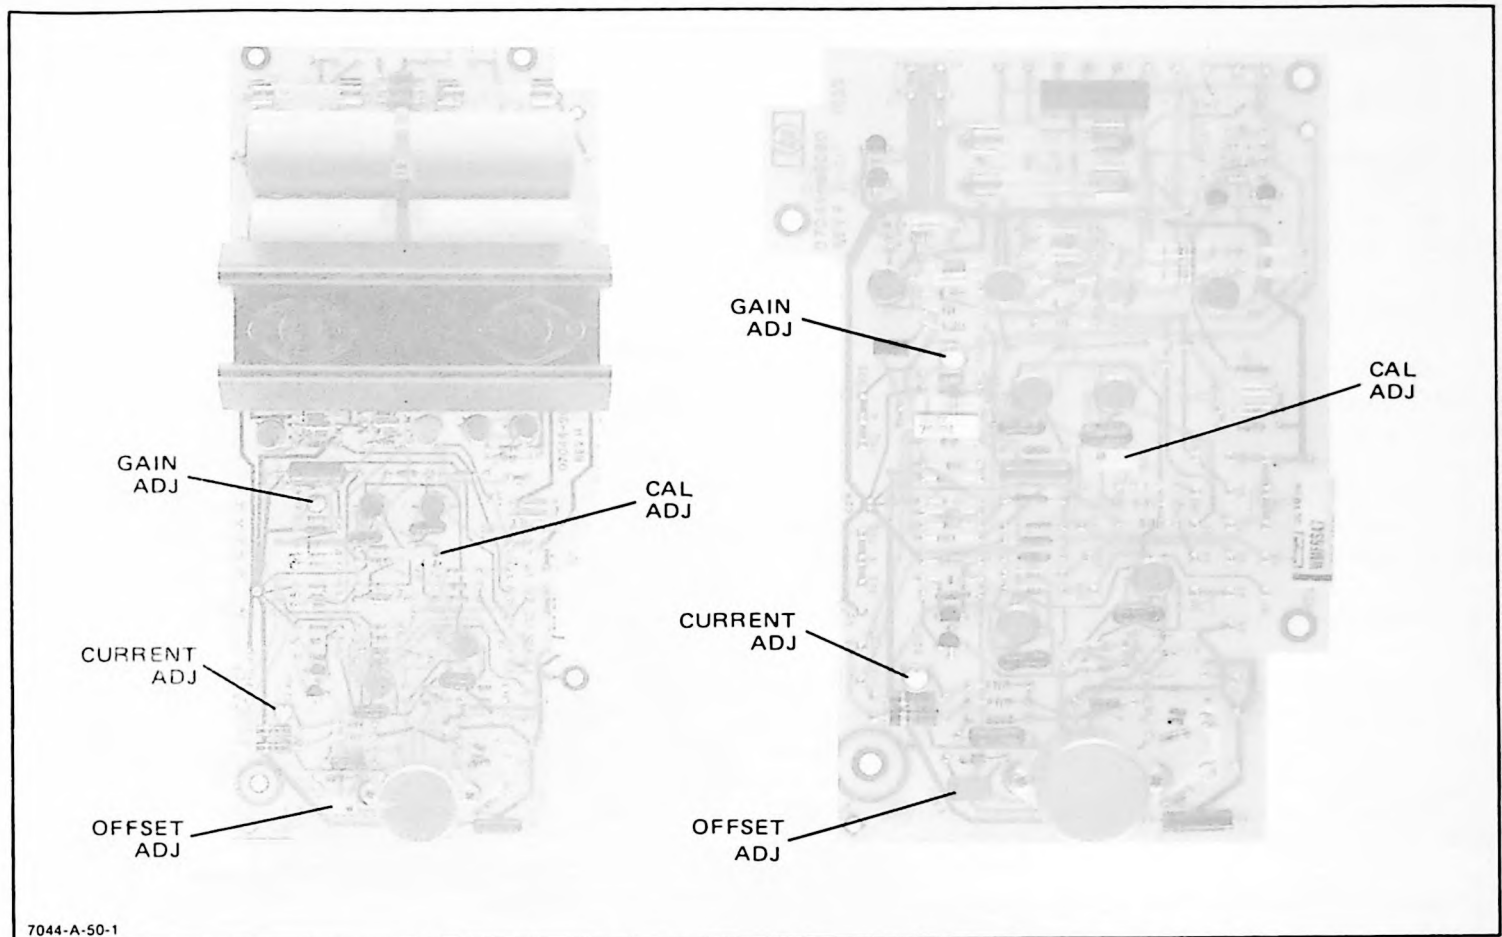

Figure 5-19. Calibration Adjustment
- g. Adjust CAL control (A3R22-7044B) (A3R24-7045B) on X-axis DC Amplifier Board. See Figure 5-19.
- m. Adjust CAL control (A2R22-7044B) (A2R26-7045B) on Y-axis DC Amplifier Board. See Figure 5-19.
- c. On X-axis Amplifier Board, measure voltage between TP1 and circuit common using a Digital Voltmeter. Adjust potentiometer marked OFFSET until voltage is $0\text{ V} \pm 10\text{ mV}$. See Figure 5-19.
e. Adjust potentiometer marked I ADJ on X-axis Amplifier Board until voltage at TP1 returns to $0\text{ V} \pm 10\text{ mV}$. See Figure 5-19.
5-92. A potentiometer marked GAIN is provided on each Amplifier Board. Normal setting is in center of adjustment span. Increase gain by turning GAIN potentiometer clockwise. If servo oscillates, turn potentiometer counterclockwise to decrease amplifier gain. See Figure 5-19.